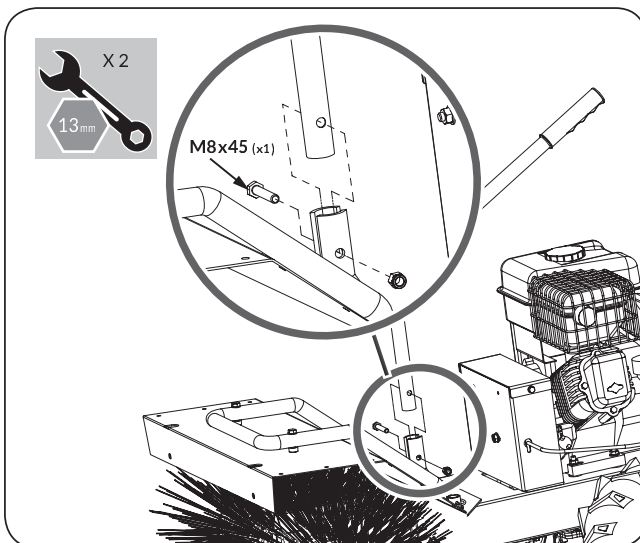

Figure 4
1. Remove the bolt M8x45 and nut M8 from the mounting bracket. (See **Figure 4**)